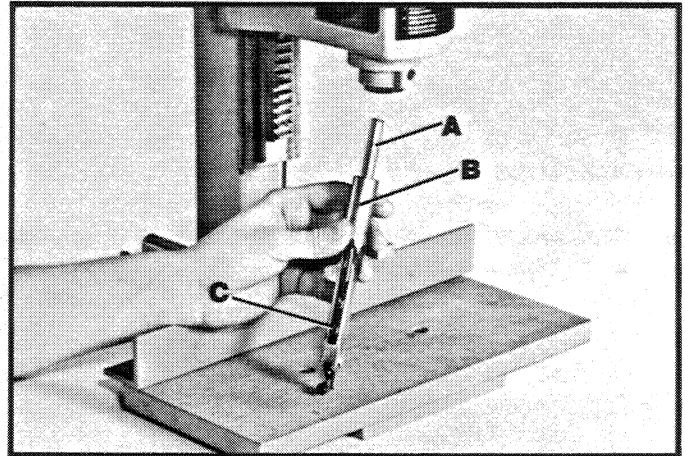

Fig. 12
2. Insert bit (A) Fig. 12, into chisel (B) and insert chisel and bit up through hole in head assembly. **NOTE:** The opening (C) in the side of the chisel should always be to the right or left, never to the front or rear. The opening (C) allows chips to escape during operation.